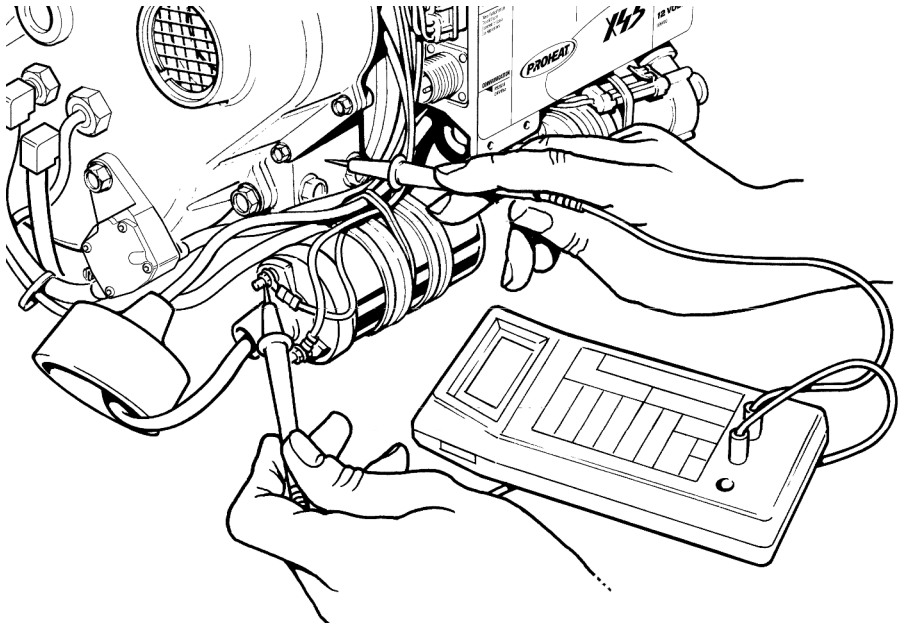

Figure 5-17 Heater Voltage Measurement
- b) Select the DC Volts range of a multimeter and connect as per *Figure 5-17*. The positive lead of the multimeter should be attached to the positive coil lead. The negative lead of the multimeter should be attached to the heater chassis at the PROHEAT ground boss. (*Figure 5-17*)